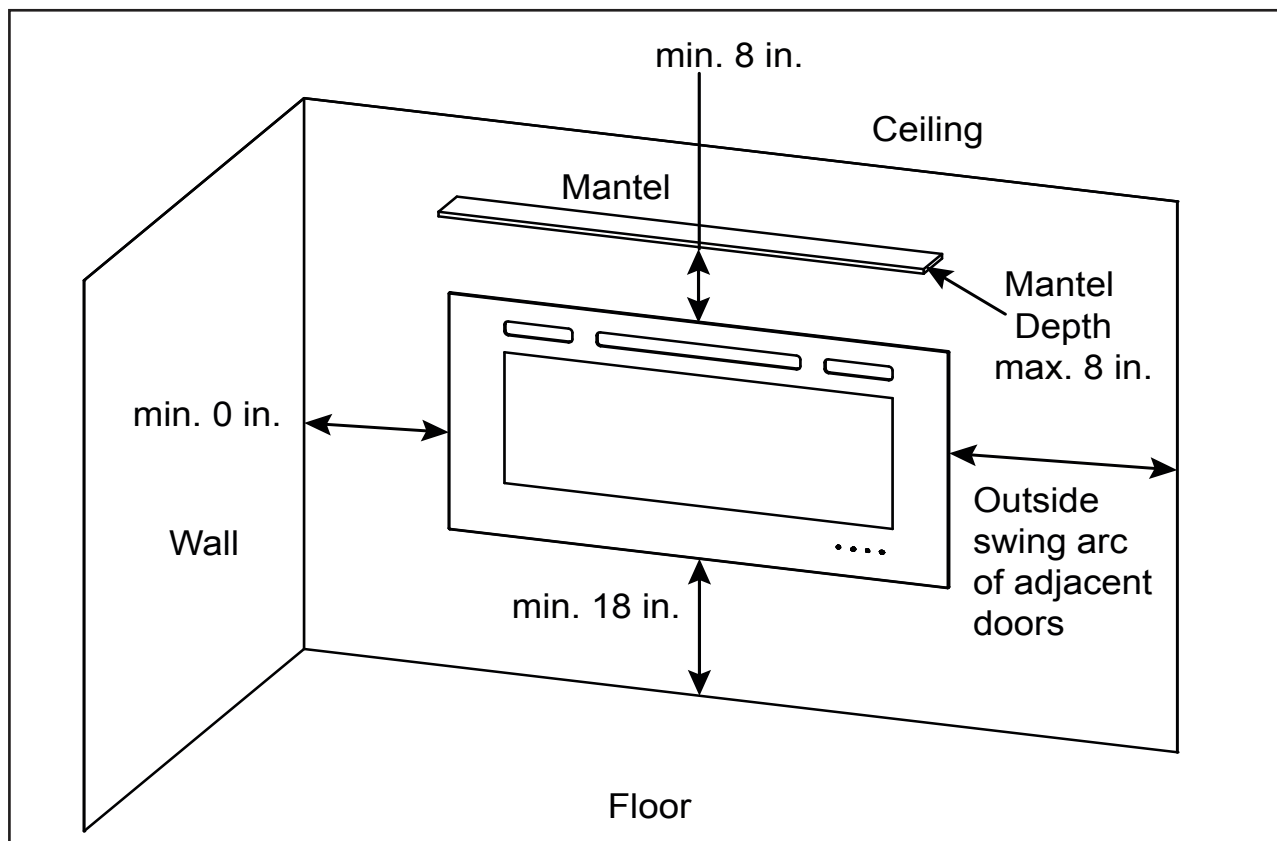

Figure 3.2 Location and Clearances Requirements
- See Figure 3.2 and 3.3 to determine location of appliance installation.
See Figure 3.2.